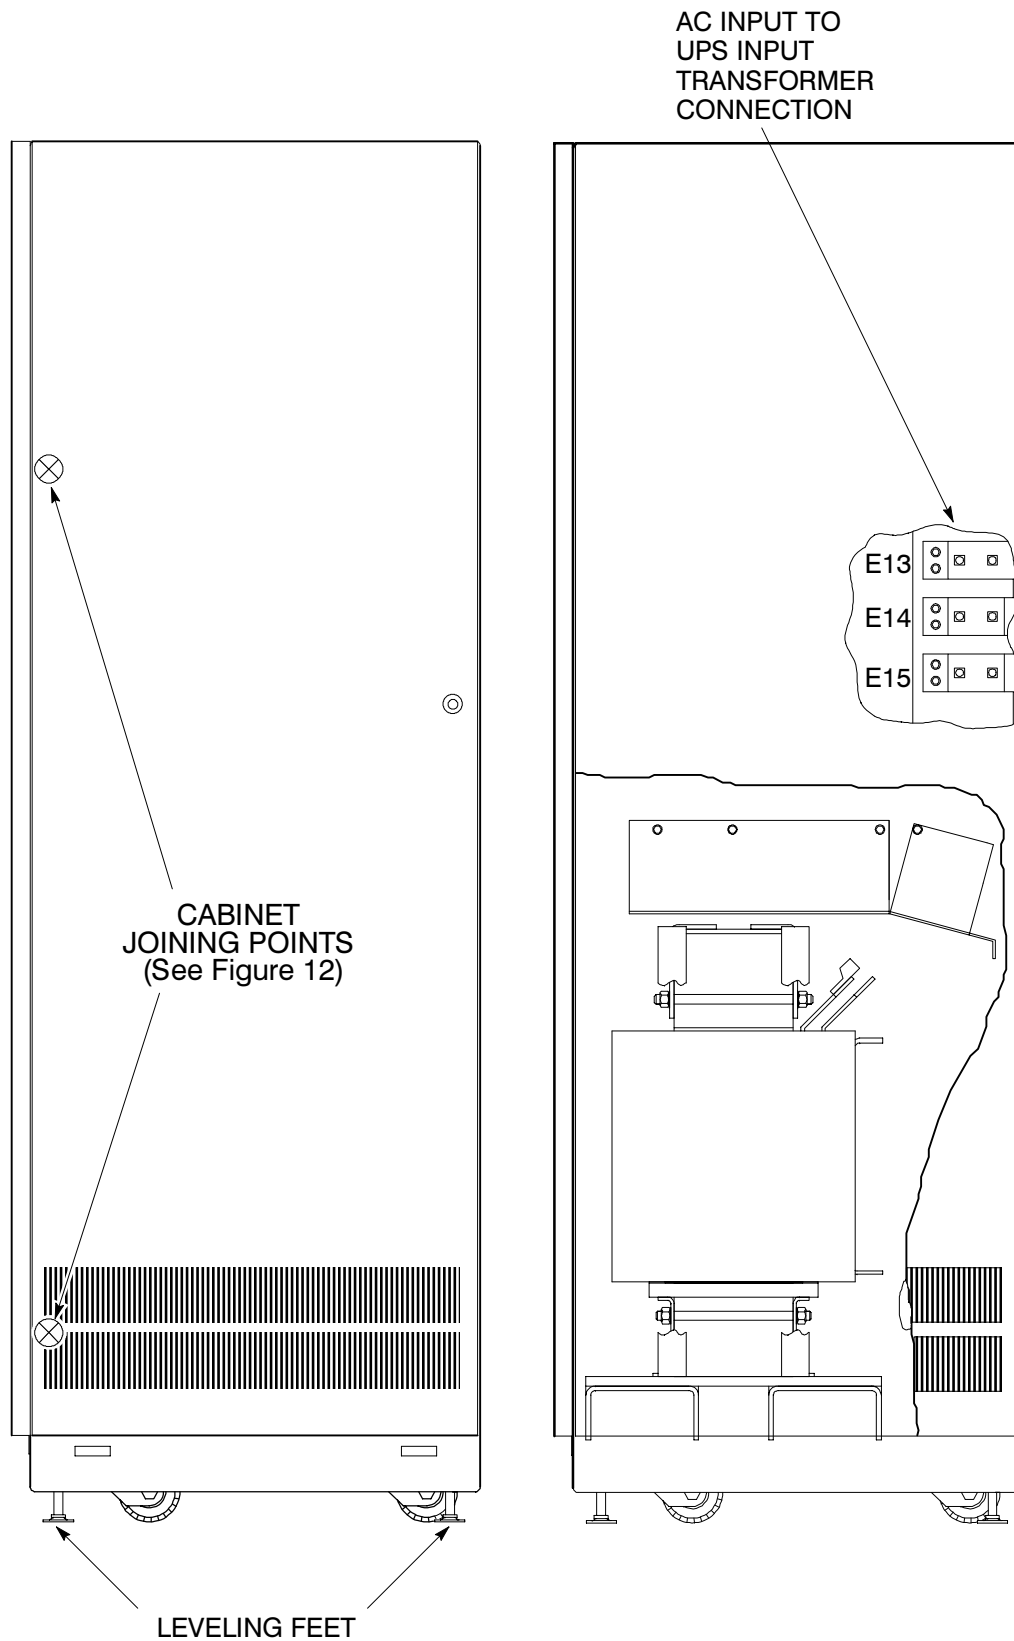

Figure 16. Installing an Input Transformer Cabinet
2. Connect the cables according to input voltage as shown in Table A. Also, refer to Figure 16.